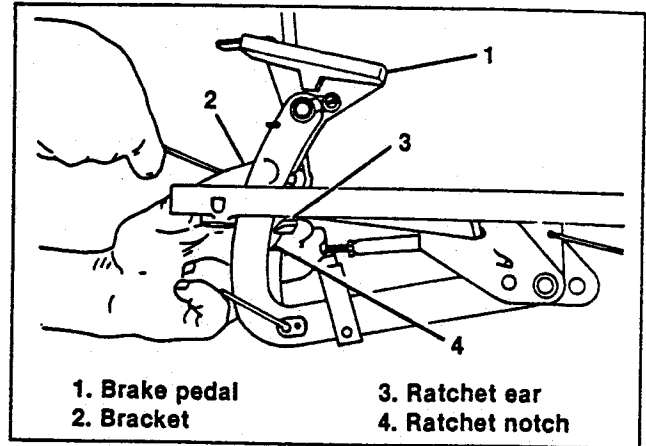

Figure 4-3. Brake Ratchet and Pawl Adjustment — D3
BRAKE RATCHET AND PAWL ADJUSTMENT — D-3 (Figure 4-3)
1. Loosen but do not remove two accelerator mounting bolts (Figure 4-3).
2. Depress brake and tilt pedal (1) forward.
4. Hold in this position and tighten mounting bolts (Figure 4-3) to 10-12 ft-lbs (1.4-1.6 kgm) torque.